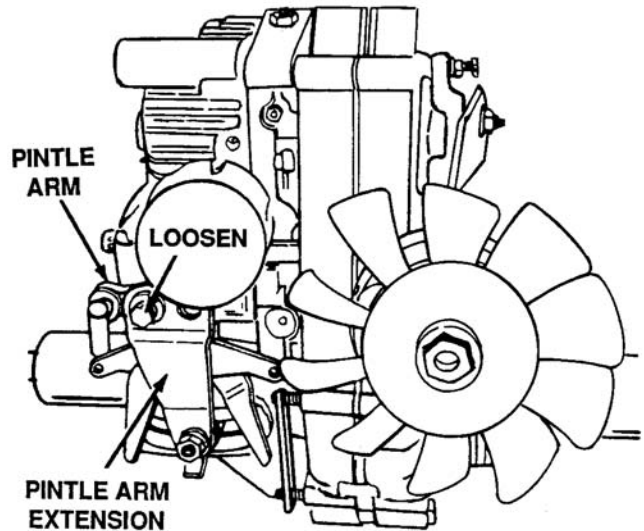

Figure 7-64. Adjusting Hydrostatic Control
- a. Remove the transmission panel. Loosen the hex bolt which secures the pintle arm extension to the pintle arm, using a ratchet wrench with 1/2 inch socket extension. See Figure 7-64.